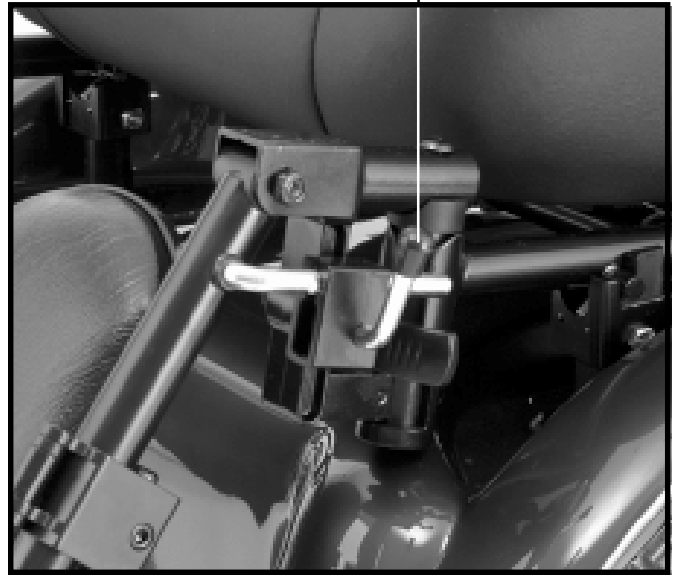

Figure 21. Elevating Leg Rests
1. Press the release lever. See figure 21.